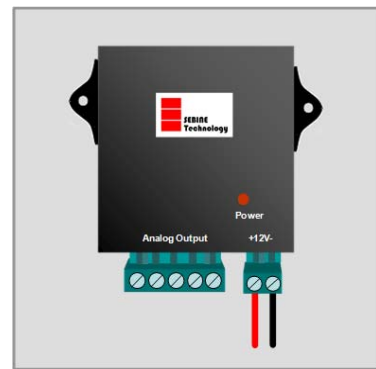
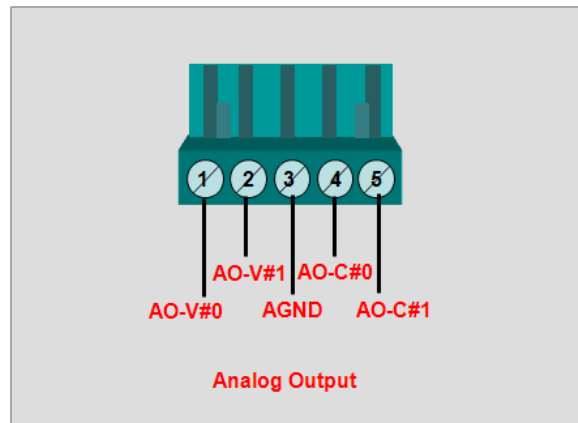

Figure8. Power Supply-3
Figure 9. W510A connector
- As shown in Figure 8, connect the terminal to power port of W510A, Make sure the direction is exact as shown in Figure 9.
W510A supports 2 output channel. For analog output function, use Analog Output connector in Figure 9. Analog Output connector is included in product purchase. Connection method is same as power supply connection method.
For use of analog output, AO#0 voltage output level setting jumper, AO#1 voltage output level setting jumper, AO#0 voltage/current output setting jumper, AO#1 voltage/current output setting jumper adjustments are needed as shown in Figure 9.